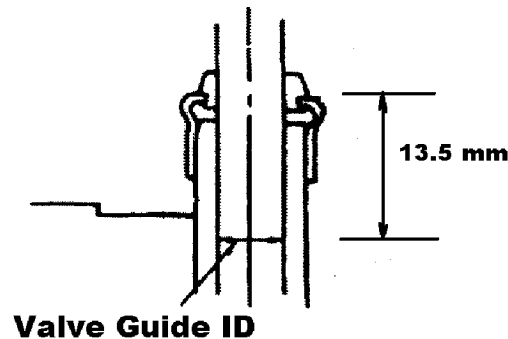

Figure 6-39 Valve stem seal
**THE INTAKE/EXHAUST VALVE GUIDES ARE PROVIDED WITH A VALVE STEM SEAL. STEM SEALS CANNOT BE REUSED AND MUST BE REPLACED WITH NEW ONES (see Figure 6-39).**